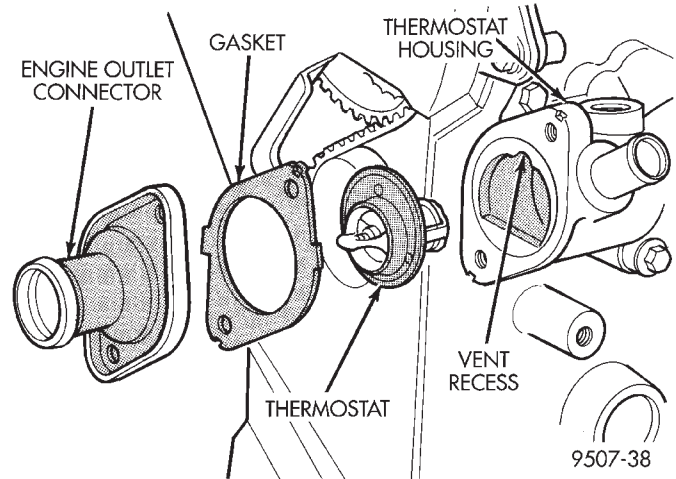

Fig. 29 Thermostat, Housing, and Outlet Connector —2.4L Engine
(1) Drain cooling system down below the thermostat level. Refer to Draining Cooling System in this group.
(2) Remove thermostat housing bolts and housing (Fig. 29).
(3) Remove thermostat, discard gasket and clean both gasket sealing surfaces.
(1) Place a new gasket (dipped in clean water) on the engine outlet connector surface. Center the thermostat in thermostat housing (Fig. 29).
(2) Place the engine outlet connector and gasket over the thermostat, making sure thermostat is seated in the thermostat housing.
(3) Bolt outlet connector to thermostat housing (Fig. 29). Tighten bolts to 28 N·m (250 in. lbs.).
(4) Refill the cooling system to the proper level. Refer to Refilling Cooling System outlined in this section for procedure